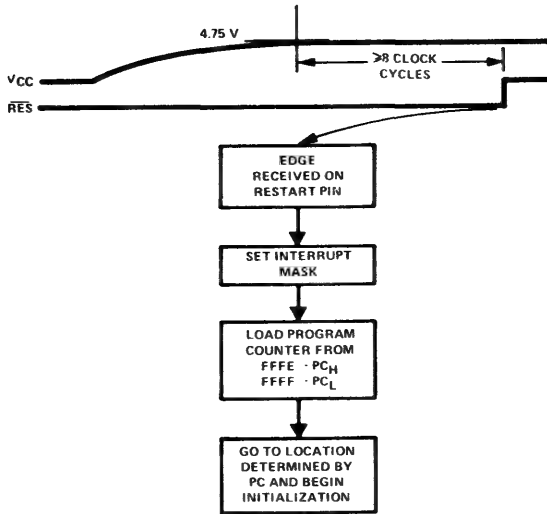

Fig. 9.7 Restart sequence
eight clock cycles, the \overline{RES} line may be allowed to go high to signal the MPU to begin the restart sequence. The contents of the ROM location addressed by FFFE will be placed in the most significant byte of the program counter, and the contents of the ROM location addressed by FFFF will be placed in its least significant byte. The program counter now contains the address of the initializing routine. During the restart sequence (Fig. 9.7), the interrupt mask bit (I)